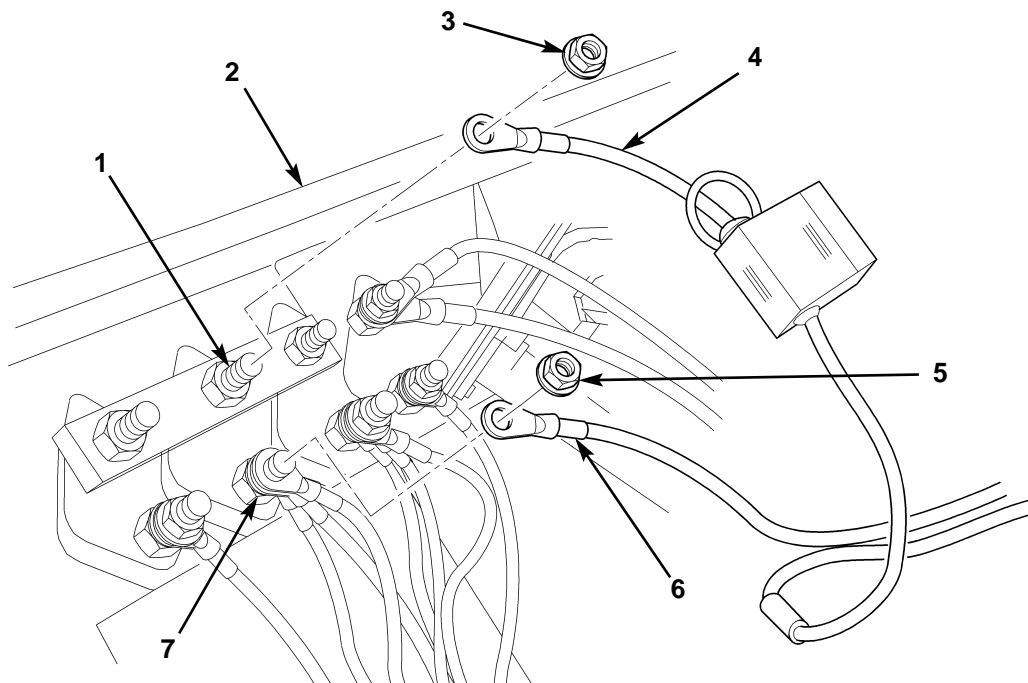

Figure 9. Connecting ABS ECU Harness to CB#3.
2. Route 36 in. (91 cm) blue wire (figure 9, item 6) from ABS warning light to circuit breaker panel (figure 9, item 2), and connect blue wire (figure 9, item 6) to CB#3, circuit 38, terminal stud (figure 9, item 7) with nut (figure 9, item 5).
3. Route 102 in. (91 cm) 5 Amp-fused orange wire (figure 9, item 4) from ABS ECU harness to circuit breaker panel (figure 9, item 2), and connect orange wire (figure 9, item 4) to CB#3, circuit 12C, terminal stud (figure 9, item 1) with nut (figure 9, item 3).